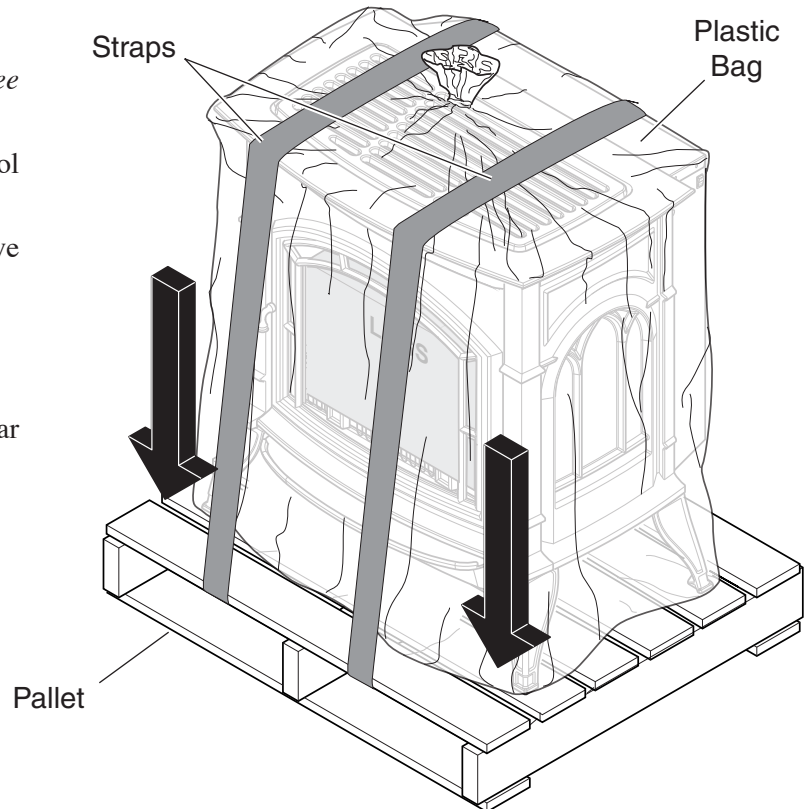

Figure 7 - Removing Straps and Plastic from Unit
1. Remove two (2) straps. See Figure 7.